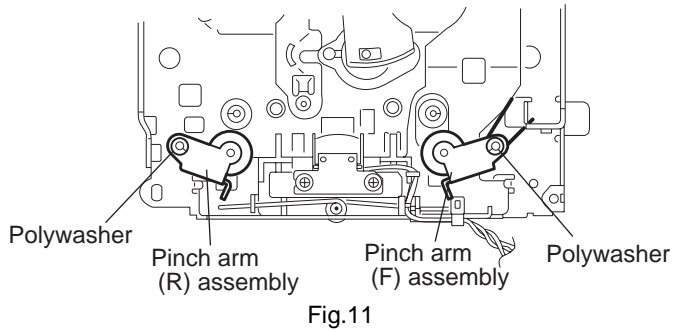

Fig.11
2.2.5 Removing the pinch arm (F) assembly (See Fig.11 and 12)
2.2.6 Removing the pinch arm (R) assembly (See Fig.11 and 13)